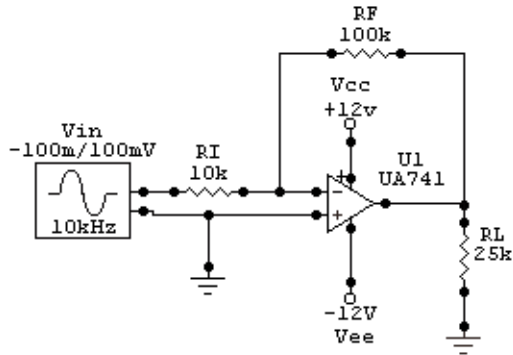

Figure 3.9. A 10X Amplifier Circuit.
- 3 Draw the circuit as shown in Figure 3.9 using the following devices:
- 2 +V devices [Analog/Power] (1) for Vcc and Vee
- 16 Click and drag the labels so they are positioned as shown on the schematic in Figure 3.9.